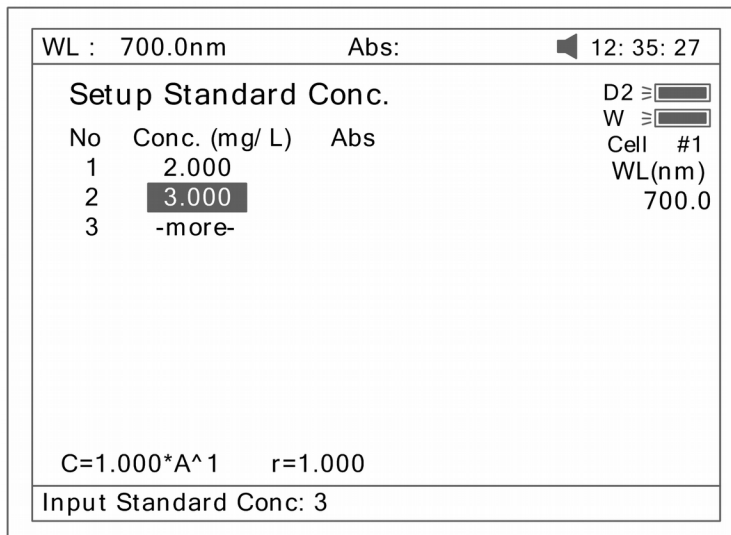
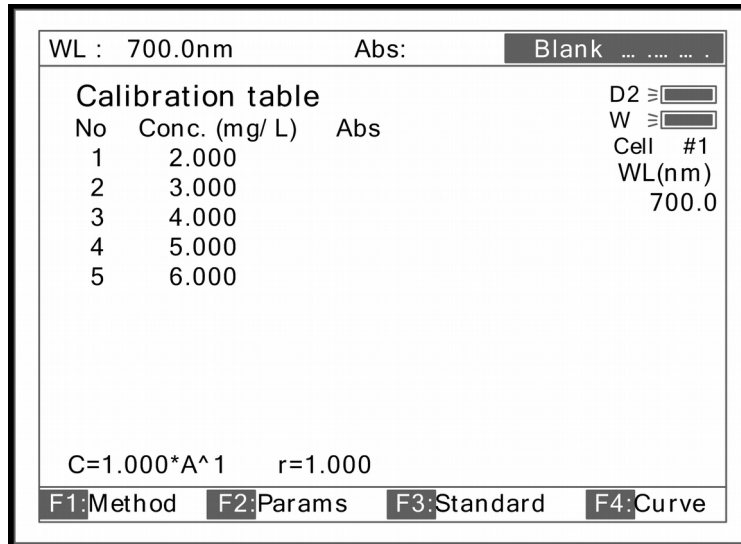

Fig 31
Fig 32
or **(v)** to modify the inputted data (Fig31). Press **(ESC/STOP)** to finish inputting and to exit (Fig 32).
3.3.2 Push the blank cuvette into the Reference Light Path and Main Light Path, press **(0Abs/%100T)**,the instrument will step to the wavelength and blank. See Fig 32.